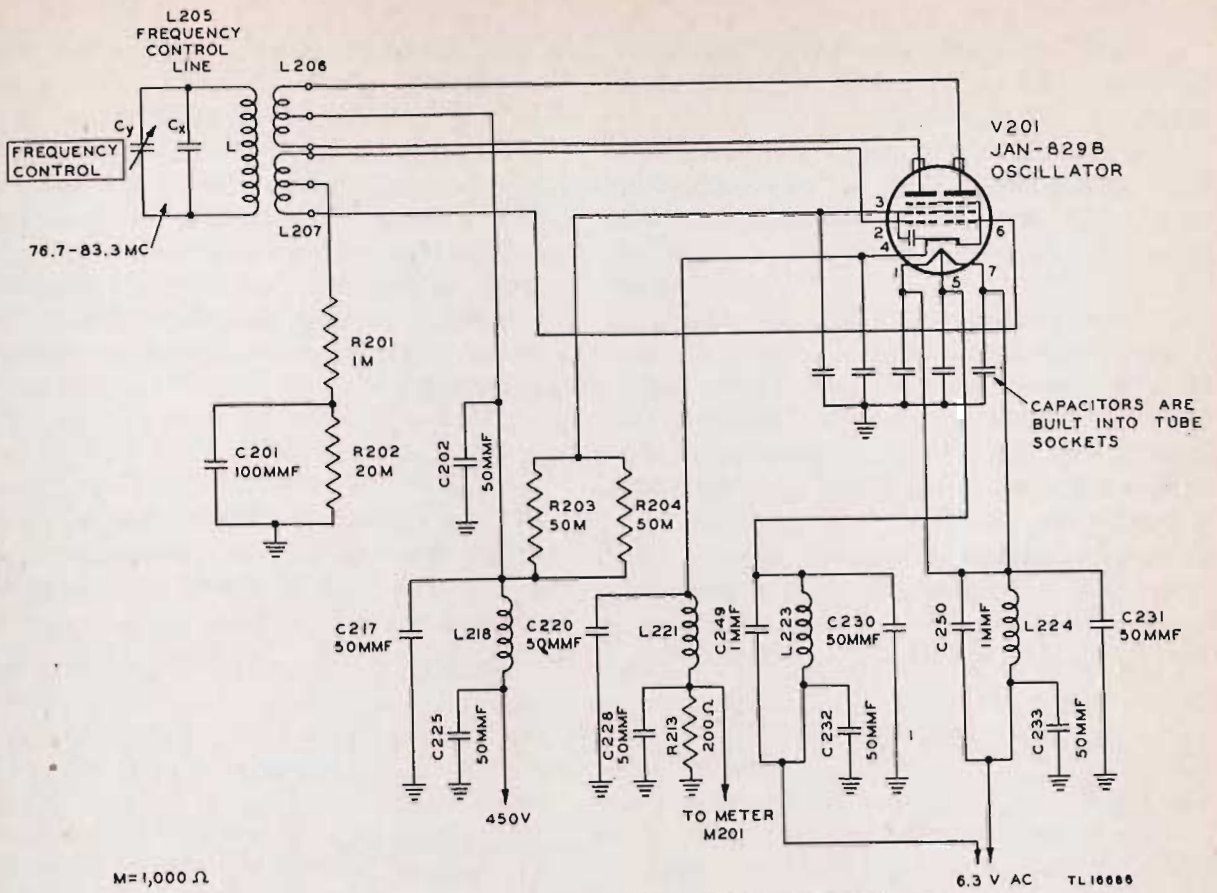

Figure 80. Radio Transmitter T-30 TRC-8 (XC-3), functional diagram of oscillator stage.
b. The plates of oscillator Tube JAN-829-B (V201), are coupled into the tank circuit by means of coupling loop L206 (fig. 80). Plate voltage is supplied through the center tap of the loop and is bypassed to ground by 50-mmf capacitor C202 which prevents radio frequency from feeding back into the power supply and places the center tap at r-f ground potential. The grids of the oscillator tube are also coupled into the tank circuit by means of coupling loop L207, with the center tap of the loop returned to ground through 1,000-ohm parasitic damping resistor R201 and 20,000-ohm resistor R202 which provides grid leak bias for the oscillator. Capacitor C201, 100 mmf, bypasses resistor R202 to ground. The center tap of coupling loop L207 is at ground r-f potential, thus meeting the requirements for a push-pull circuit. Cathode